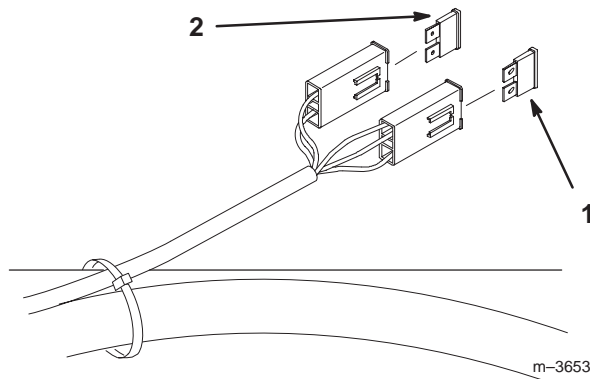

Figure 51
- Raise the seat to gain access to fuse holder (Fig. 51).
- To replace fuses pull out on the fuse to remove it (Fig. 51).